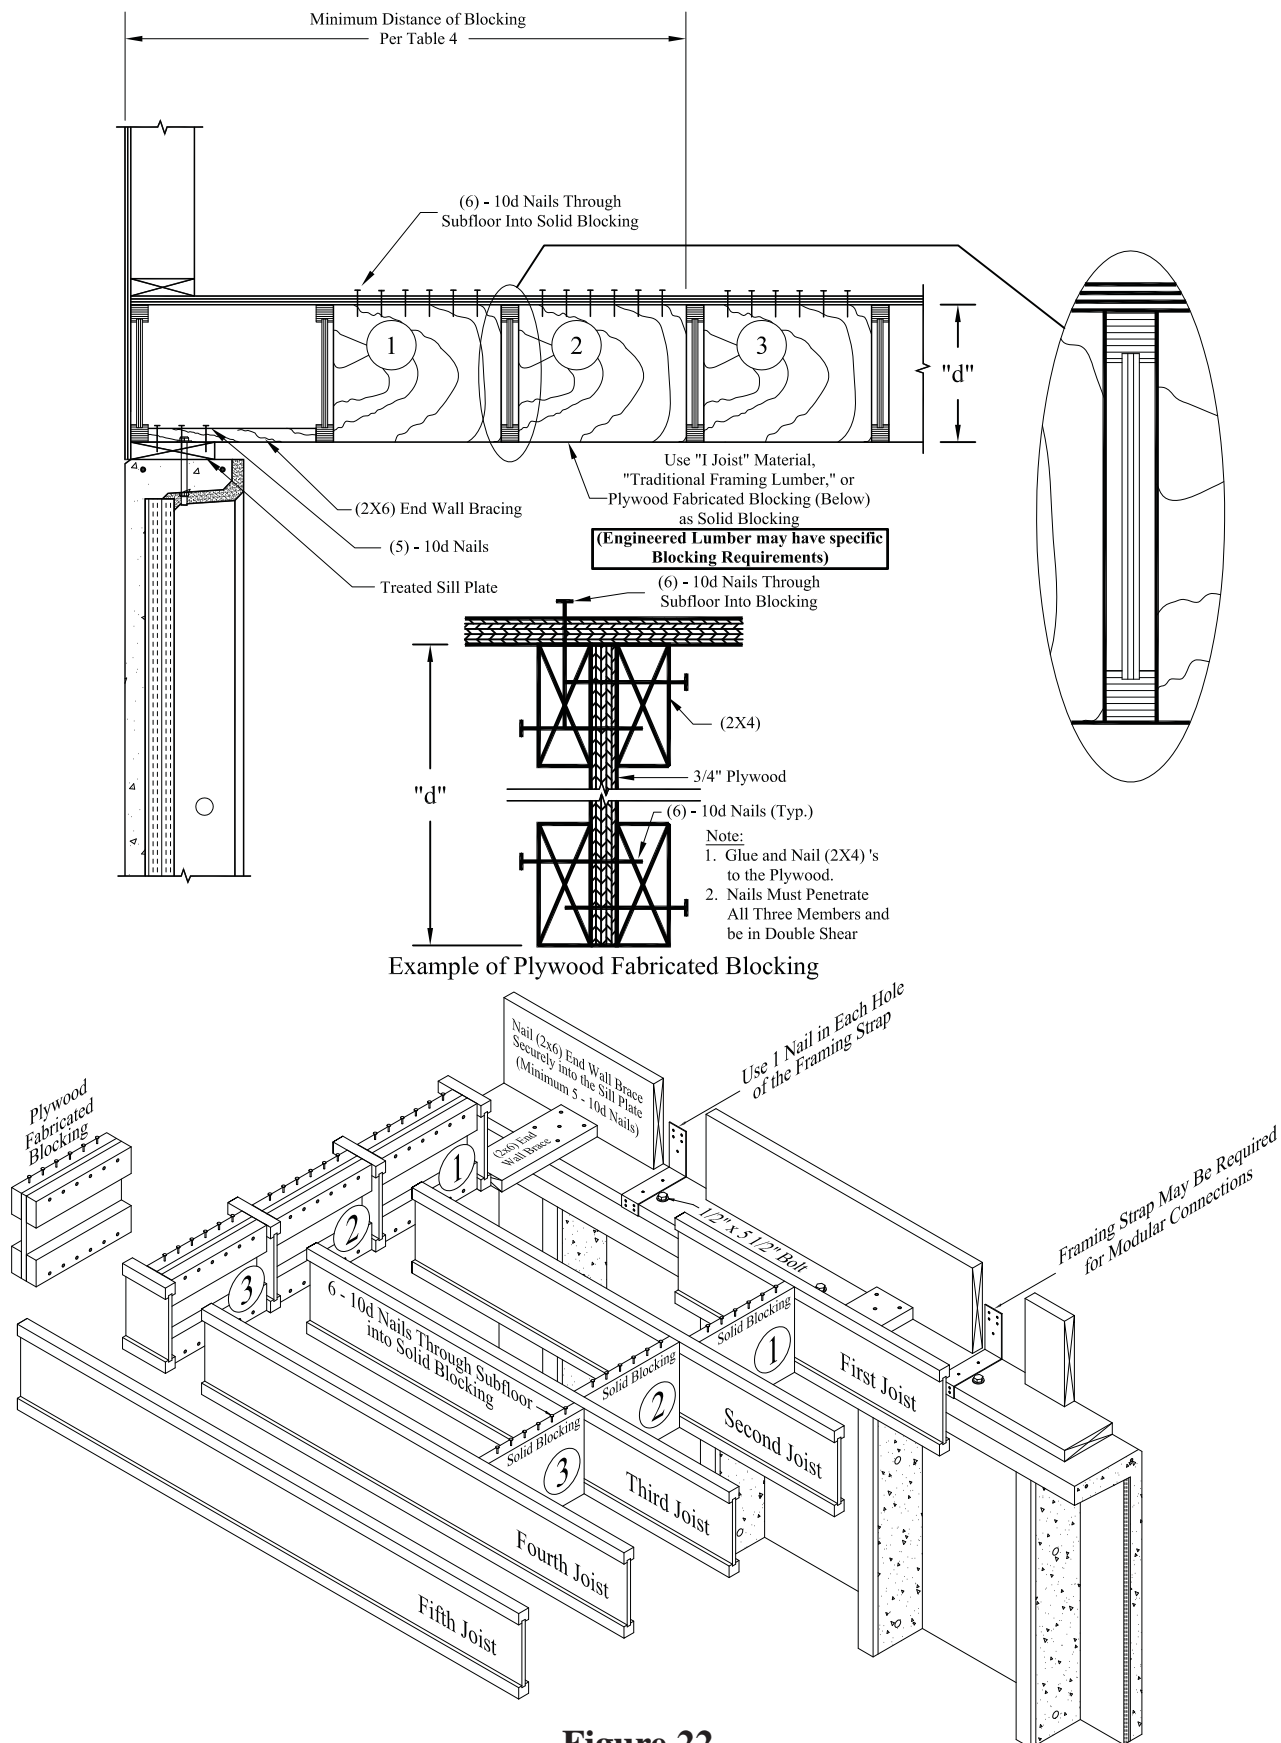

Figure 22
- See Figure 22 on page 30 for solid blocking details for "I" Joist construction.